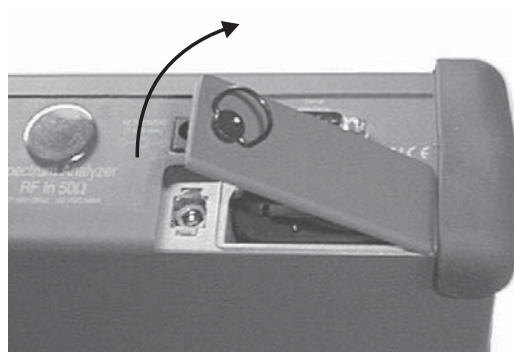

Figure 8. Removing the Battery Access Door
3. Lift the door and remove, as illustrated in Figure 8.